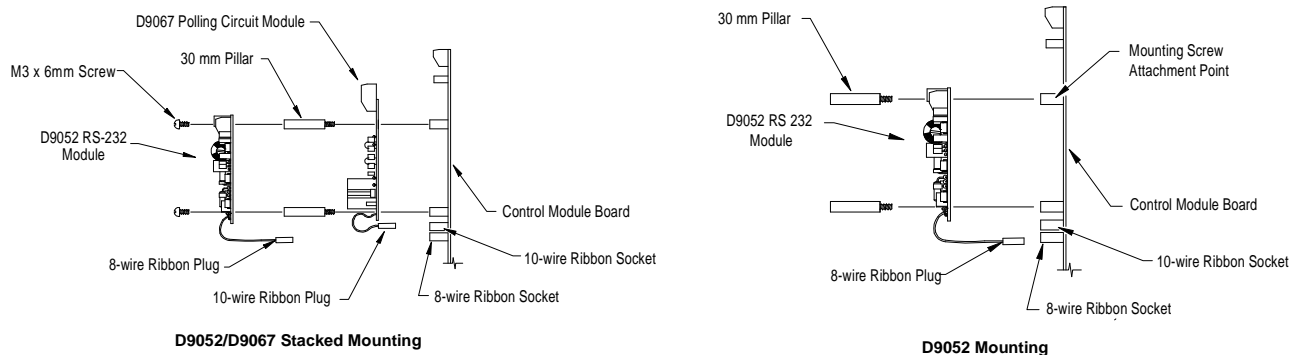

Figure 5: Mounting the D9052 RS-232 Module
- To mount the D9052 by itself, use the four pillars to attach the module directly to the Control Module. See Figure 5.